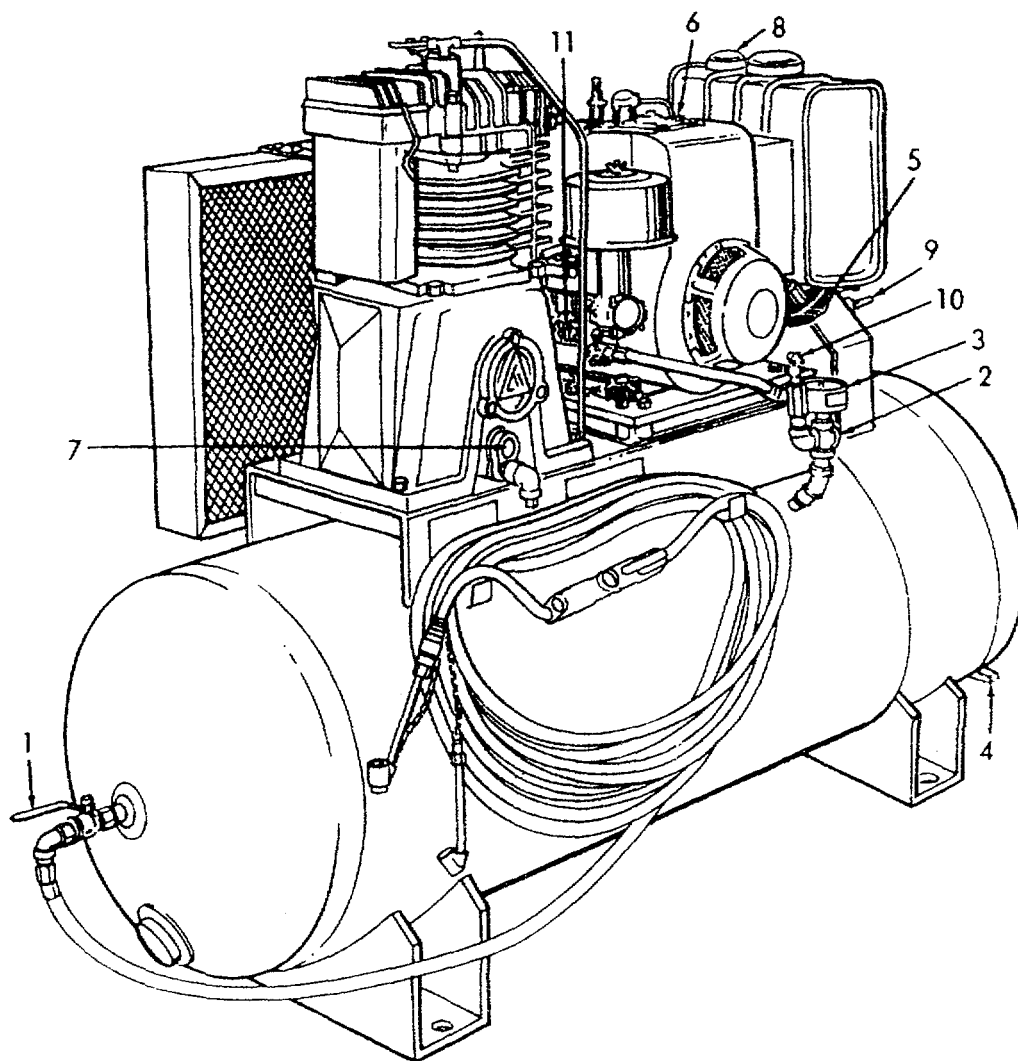

Figure 2-1. Air Compressor Unit Controls and Indicators.
- a. *Air Compressor Unit Controls and Indicators.* (Refer to figure 2-1).